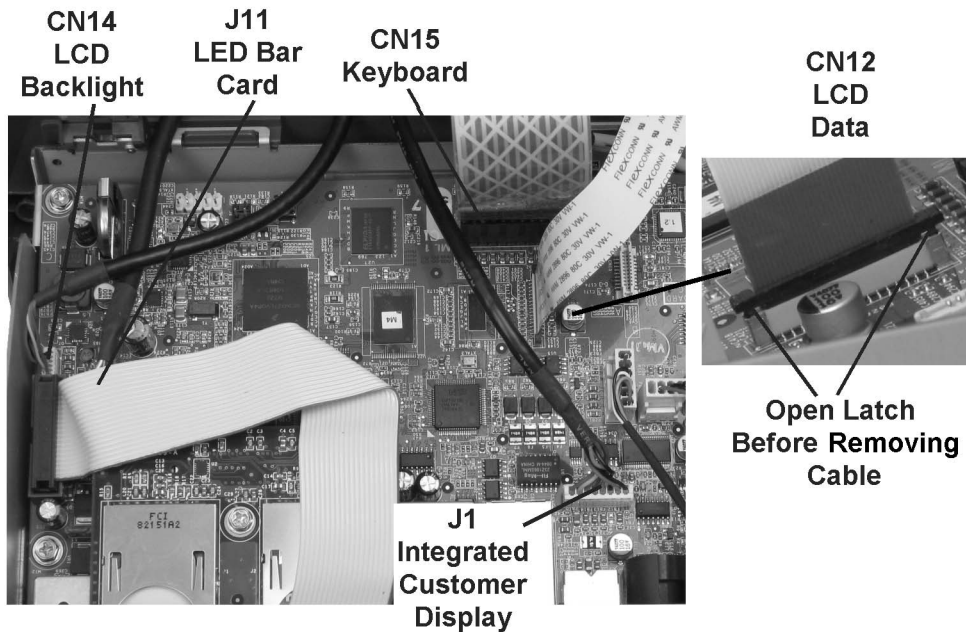

Figure 2-14: Connecting the System Board Cables
1. Position the top cover assembly just behind the base, and refer to Figure 2-14, below.